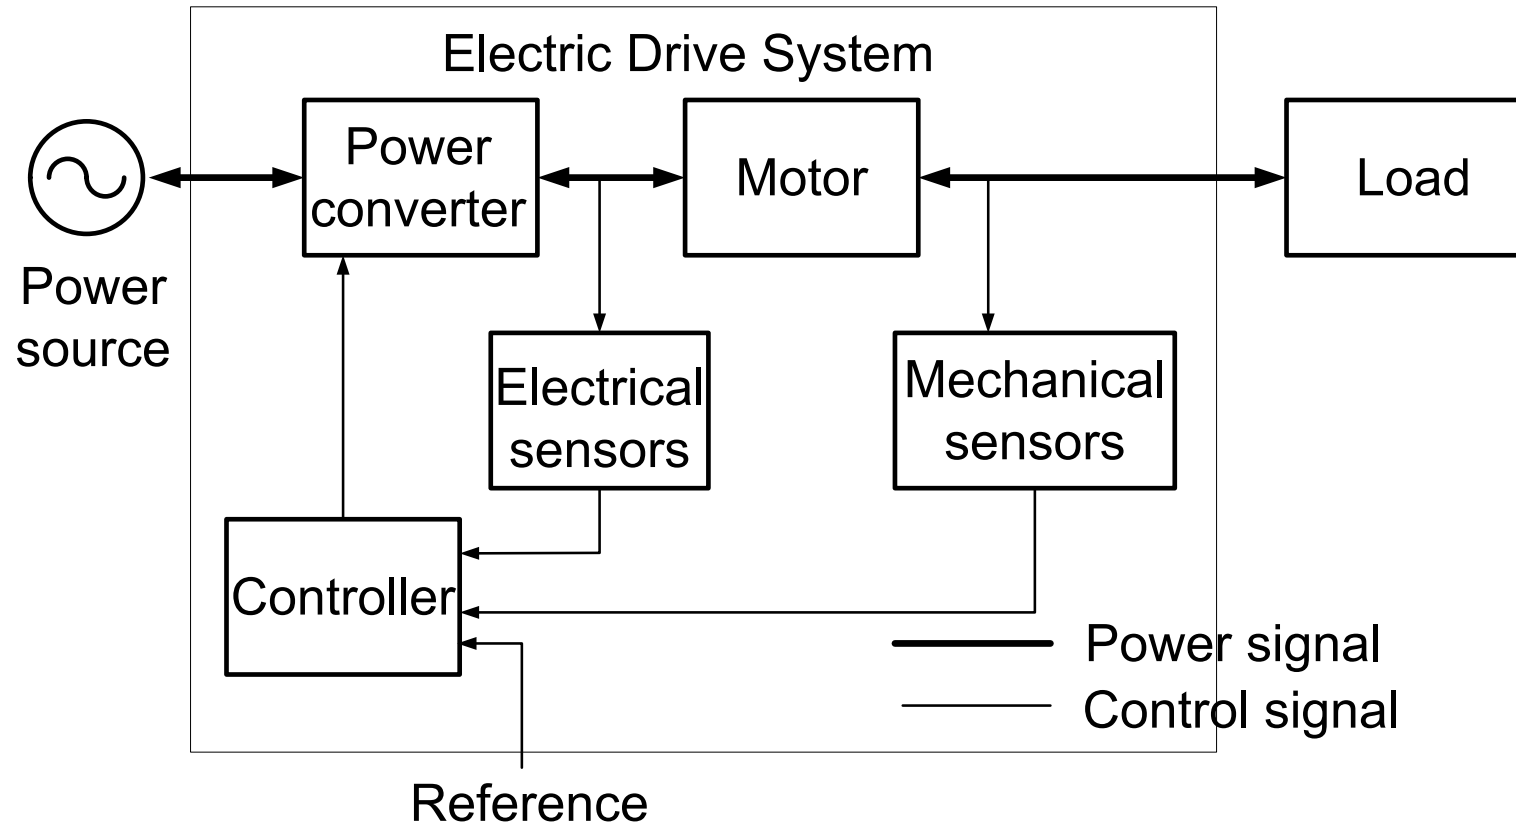

Figure 1.2: Electric drive system
- Most efficient way of controlling electric power is by using **power semiconductor converter** as shown in Fig. 1.2.